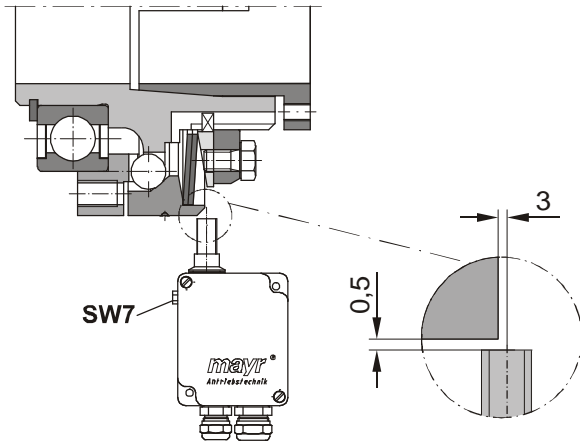
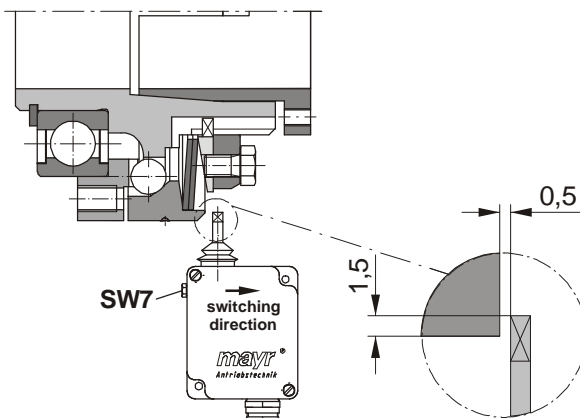

Fig. 12: Contactless Limit Switch
Fig. 13: Mechanical Limit Switch
Dimension "a" is the distance from the adjusting nut facing side (5) to the sealing ring facing side (16), see Fig. 12, Table 3.
The switching direction arrow on the mechanical limit switch housing cover points in the direction of the adjusting nut (5) or in the stroke direction of the thrust washer (3), Fig. 13.
Adjust the switch distances for the contactless and mechanical limit switch acc. Fig. 12 or Fig. 13. The distance of the thrust washer (3) to the switching point can be finely adjusted using a hexagon head screw, wrench opening 7 (Figs. 12 and 13).